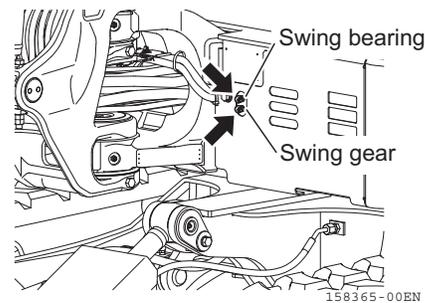

Fig. 8-34
1. Using a grease gun, apply grease through the grease nipples shown in **Fig. 8-34**.